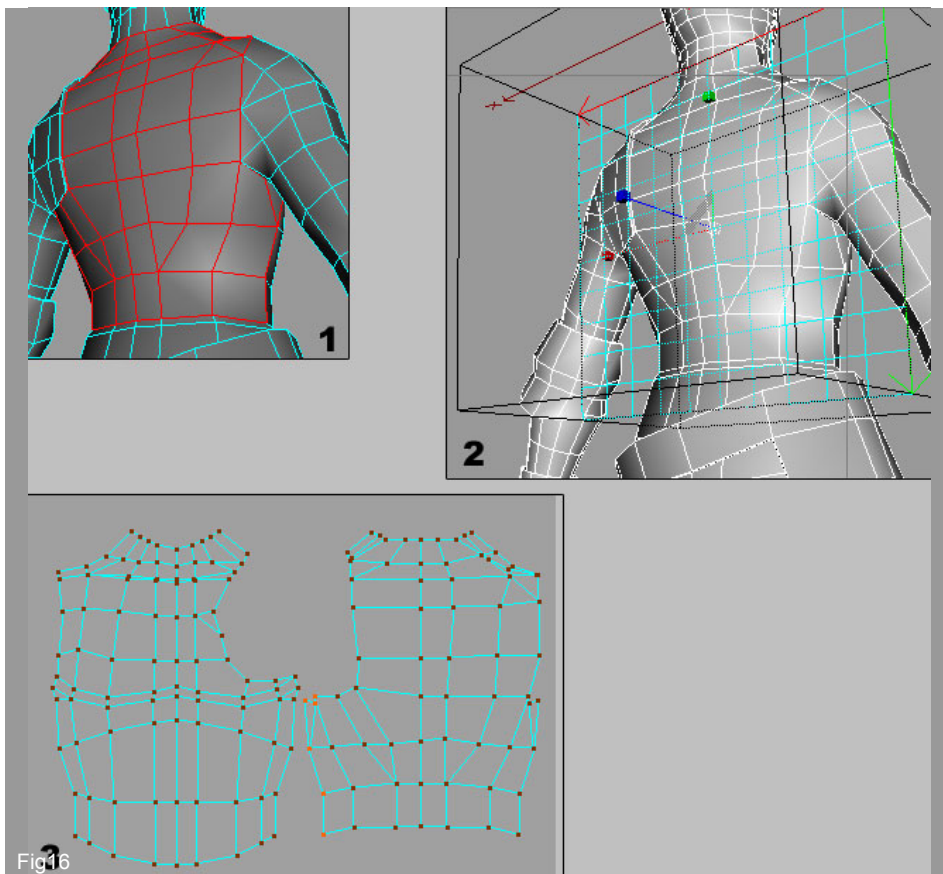

Fig16
16. Follow the same procedure for the back to complete the torso area. Select so the poly's like shown on the stage 1 of Fig16 then apply a Flat map by using the Interactive Mapping command (stage2). Flip the newly mapped poly's (Mirror U tool) horizontally and scale them in order to obtain the similar size to the front of the body (stage 3). Next step is to weld the verts highlighted in red as seen in the stage 3 of figure.